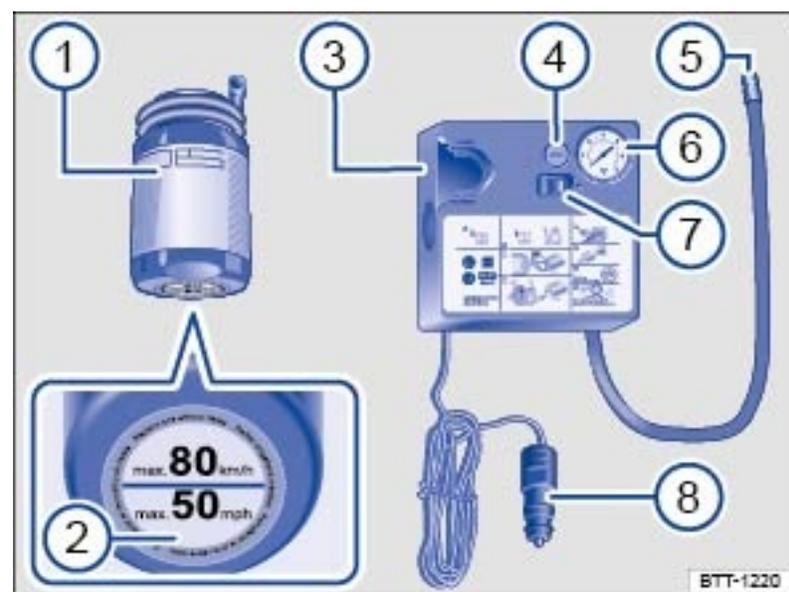

Fig. 219 Basic diagram: Contents of the tire mobility set.
The tire mobility set may be stored in one of several places in the luggage compartment (for example, in the side storage compartment or under the floor covering). It contains the following → Fig. 219:
- ▶ Vigorously shake the tire inflation cylinder → Fig. 219 ① a few times back and forth.
- ▶ Tightly screw the inflation hose on the air compressor → Fig. 219 ⑤ to the valve on the top of the sealant cylinder.
- ▶ Tightly screw the filling hose from the tire inflation cylinder → Fig. 219 ① to the tire valve.
- ▶ Hold the cylinder with the bottom pointing up and insert the top of the cylinder into the notch in the air compressor → Fig. 219 ③.
- ▶ Insert the 12 Volt plug → Fig. 219 ⑧ into one of the vehicle's 12 Volt sockets → Power outlets.
- ▶ Switch the air compressor on using the ON/OFF switch → Fig. 219 ⑦.
Connect the inflation hose → Fig. 219 ⑤ from the air compressor to the tire valve and read the tire pressure on the tire pressure gauge ⑥.